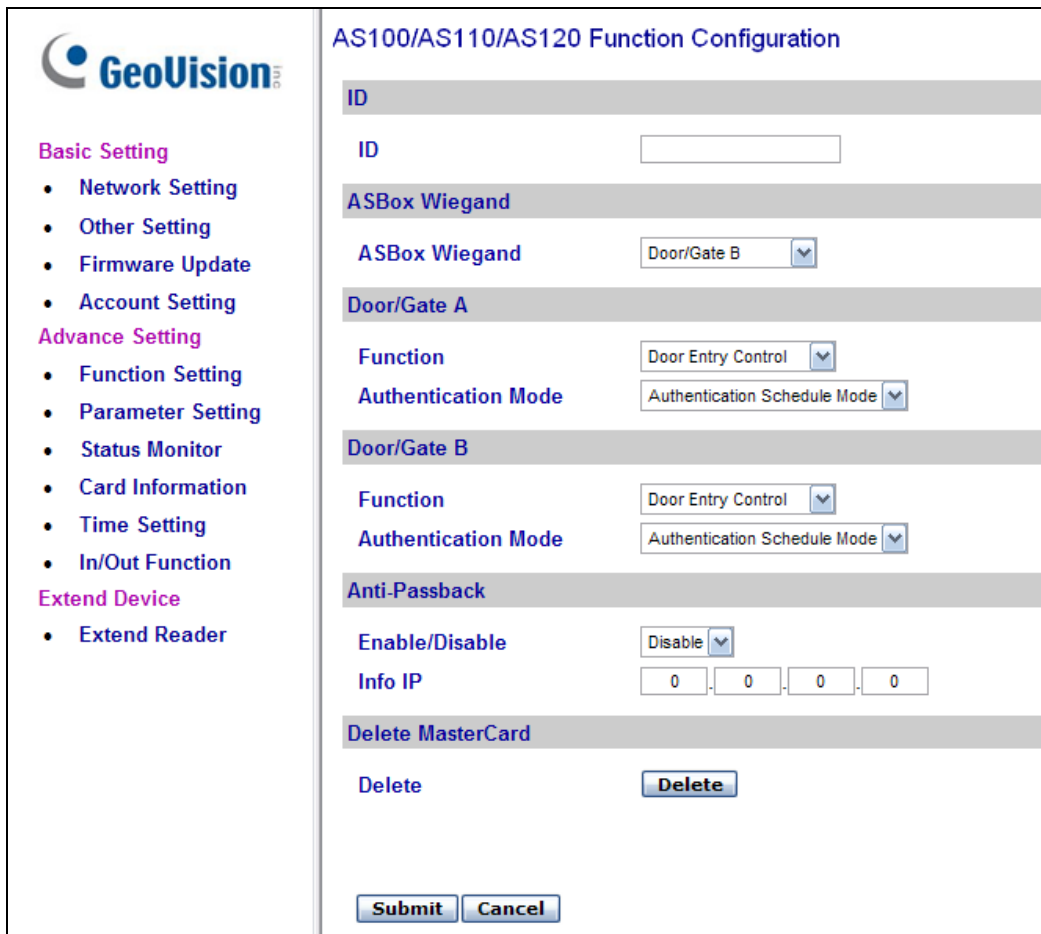

Figure 9-15
In the left menu, click **Parameter Setting**. This **AS100/AS110/AS120 Configuration** page appears. The contents of Parameter Setting change based on your settings for Door/Gate A and Door/Gate B in the **Function Setting** page (Figure 9-15).
- When **Door Entry/Exit Control** or **Parking Entry/Exit Control** is selected in the **Function Setting** page (Figure 9-15), these options become available:
- When **Elevator Control** is selected in the **Function Setting** page (Figure 9-15), these options become available: